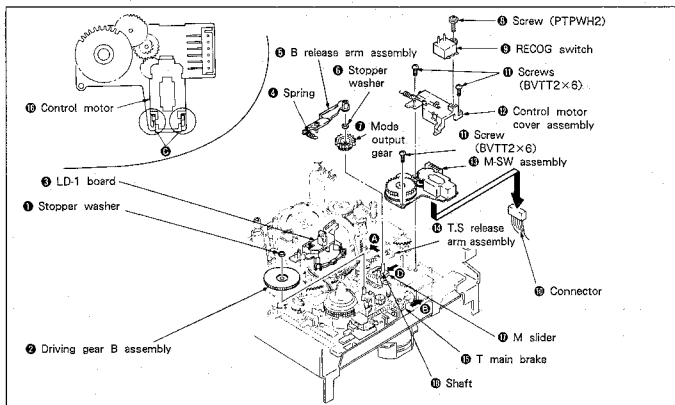

Fig. 7-38.
1. **Removal (See Fig. 7-38.)**
Mounting (See Fig. 7-38.)